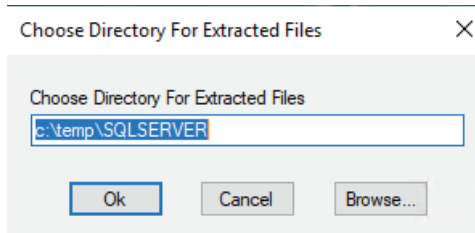

Figure 27 – Choose Directory for Extracted Files
6. The **Choose Directory For Extracted Files** window appears (Figure 27).